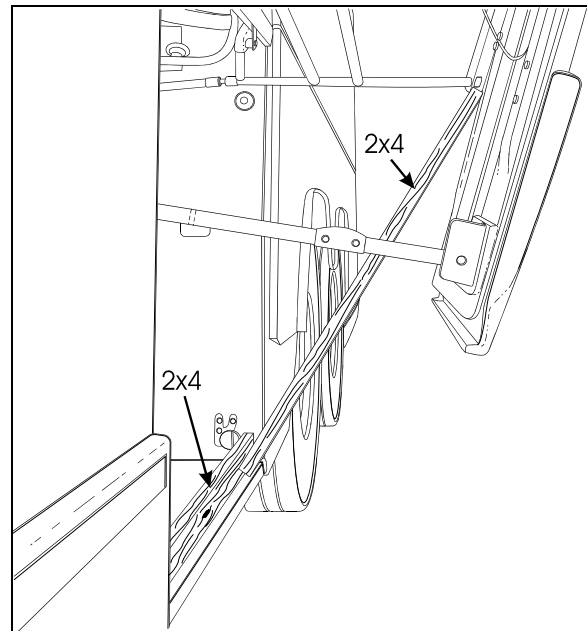

FIGURE 58: PANTOGRAPH ADJUSTMENT 18319
3. Install another piece of 2x4 between the first piece and the bottom of the pivot of the lowest (or shortest) pantograph arm, (Fig. 58).